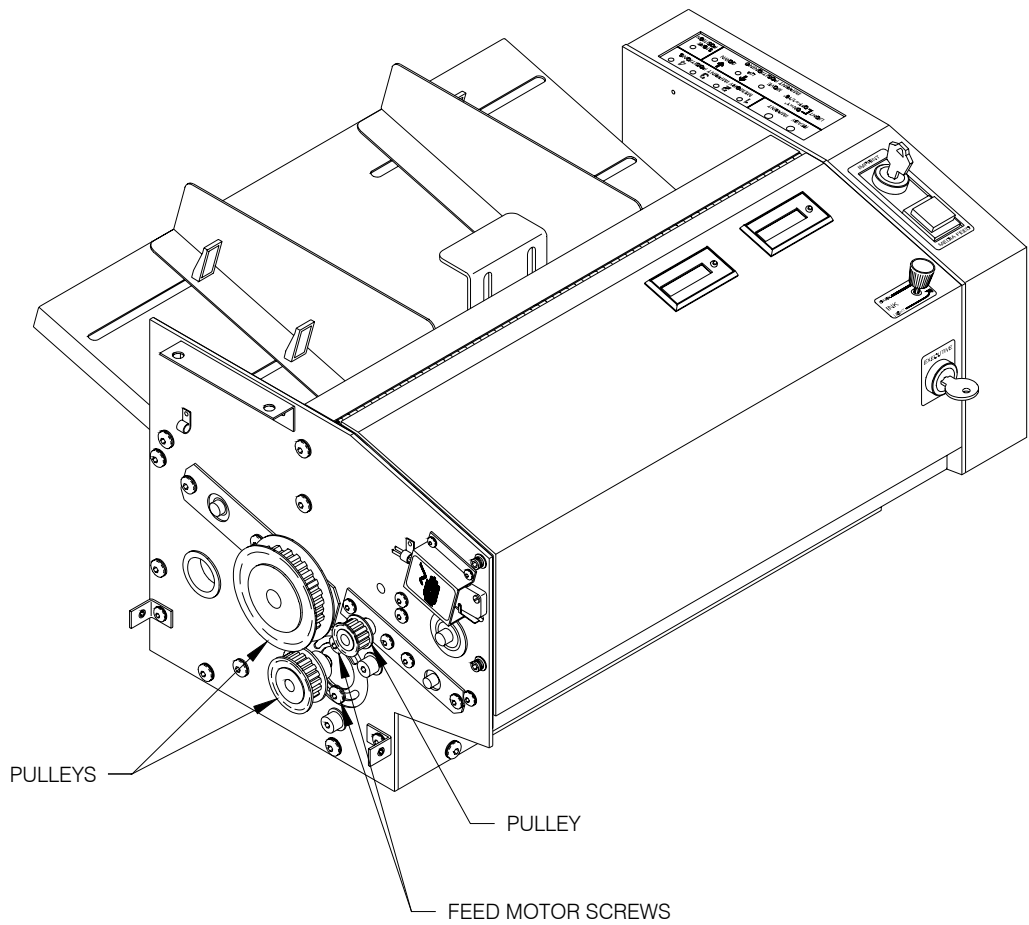

Figure 7.23 -- Feed Motor Screws & Pulleys
2. Loosen the 2 SCREWS in the FEED MOTOR and rotate the FEED MOTOR counterclockwise to loosen the tension on the FEED TIMING BELT. (Refer to **Figure 7.23.**)
13. Place the 3 PULLEYS on the SHAFTS and fasten the SET SCREWS to the flat sides of the SHAFTS. (Refer to **Figure 7.23.**)
15. Tighten the 2 SCREWS in the FEED MOTOR. (Refer to **Figure 7.23.**)